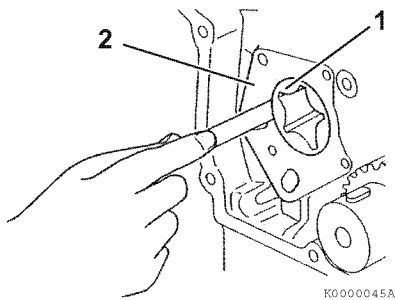

Figure 9-14
Determine the outside clearance of the outer rotor. Insert a feeler gauge between the outer rotor (Figure 9-14, (1)) and gear case oil pump cavity (Figure 9-14, (2)).